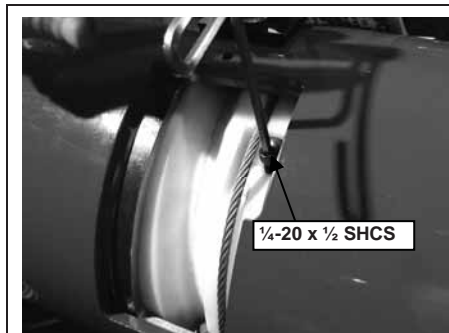

Figure 4-6
- Step 8. Remove 1/4-20 x 1/2 SHCS located above the ball shank from the balancer spool. (See Figure 4-6)